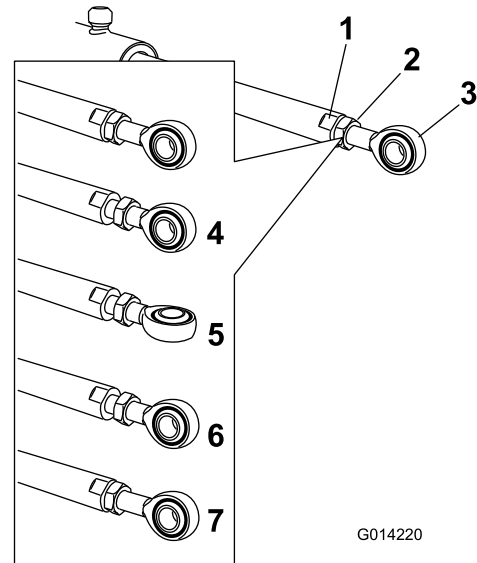

Figure 97
5. Use a wrench on the flat sides of the actuator rod to immobilize it, then loosen the jam nut to manipulate the eyelet rod (Figure 97).
6. Turn the eyelet rod in the actuator rod to shorten or lengthen the extended actuator to the desired position (Figure 97).